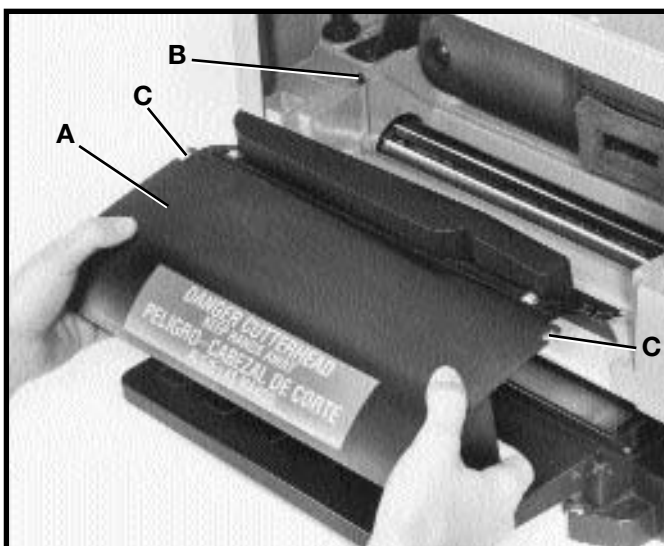

Fig. 7
1. Assemble chip deflector (A) Fig. 7, to the planer by inserting end of chip deflector over the top of the cutterhead. Make certain the two screws, one of which is shown at (B) are inserted upward through the two slots (C) in the chip deflector.